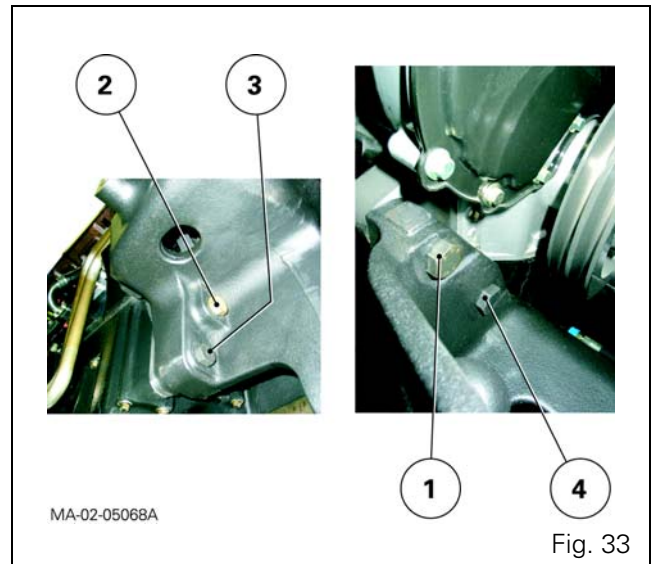

Fig. 33
- 63.** Fit screws (2) and (3) (Fig. 33).
- 64.** Tighten opposing nuts and all screws of the front frame to a torque of 240 - 320 Nm in the following order (2) (3) (4) (1) (Fig. 33).